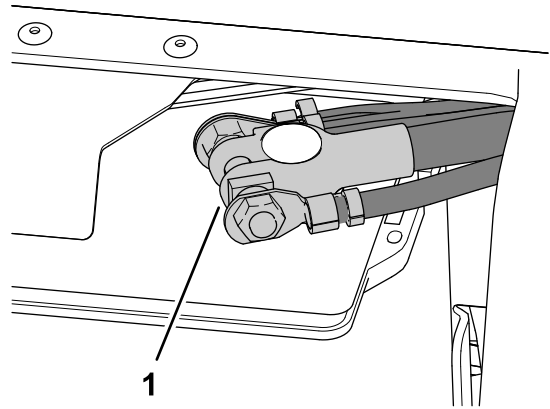

Figure 23
- 1. Assemble the terminal of the negative battery cable to the negative post of the battery, and tighten the nut of the terminal by hand (Figure 23).